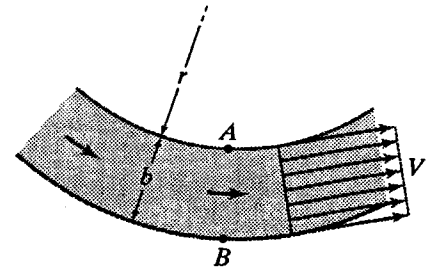

Figure X5.16.1
5.16.2 *Refer to Fig. X5.16.1. Flow occurs in a vertical plane. Data are as follows: $r = 7$ m, $b = 3$ m, $\gamma = 9.81$ kN/m³, $V = 5$ m/s. Find the pressure at A if the pressure at B is 150 kPa.*